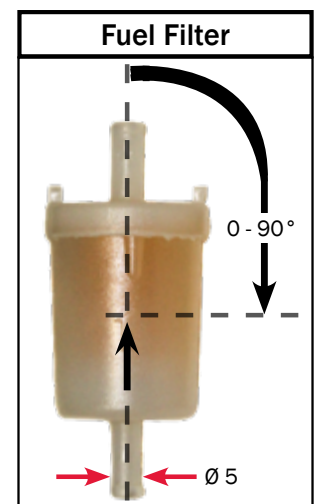

Figure 22
- The filter can be mounted vertically or horizontally; note the installation position and direction of flow (see Figure 22).